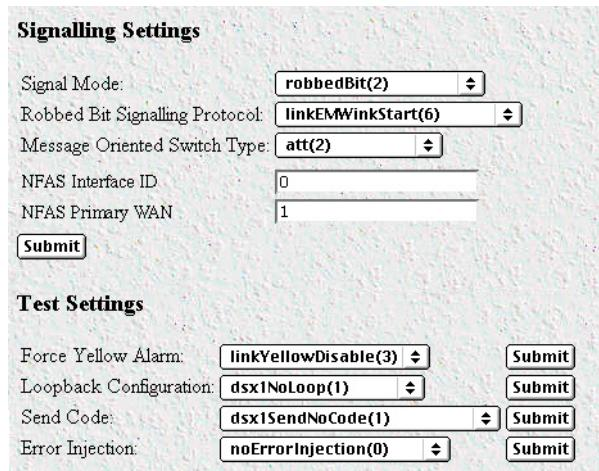

Figure 35. WAN Circuit Configuration window, signalling Settings section
1. Scroll down the WAN Circuit Configuration window, until the Signaling Settings section appears (see figure 35).
3. Click on the Message Oriented Switch Type pop-up menu (see figure 35) and choose CTR4(3).
1. Scroll down the WAN Circuit Configuration window, until the signaling Settings section appears (see figure 35 on page 51).
3. Click on the Message Oriented Switch Type pop-up menu (see figure 35 on page 51) and choose either ni1(National ISDN 1), dms(Nortel Switch) or att(AT&T Customer).